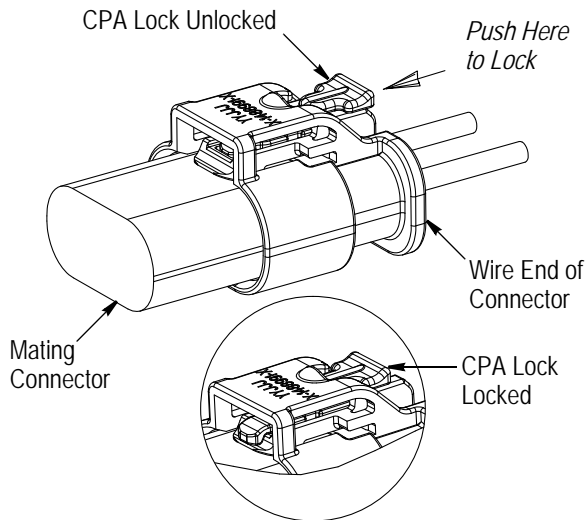

Figure 3
2. Push the connector and mating connector together. Refer to Figure 3.
3. If using the CPA lock, push the CPA lock forward until there is an audible and tactile “click”; locking the connector and mating connector together. See Figure 3. The CPA lock should be easy to engage. It will be difficult to engage if: 1) the CPA lock is pushed at an angle, or 2) the connector and mating connector are not fully mated.